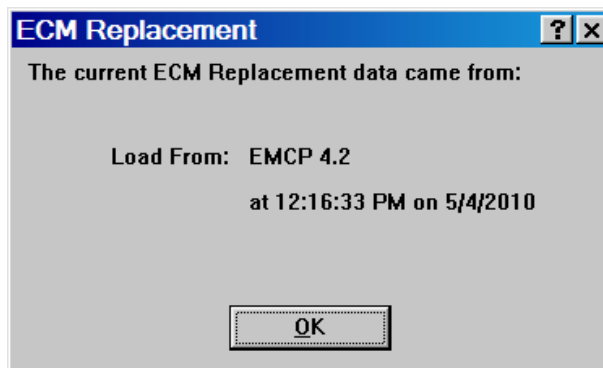

Figure 15.5 – Load from File
4. The software will confirm opening the file. See Figure 15.5. Click "OK."